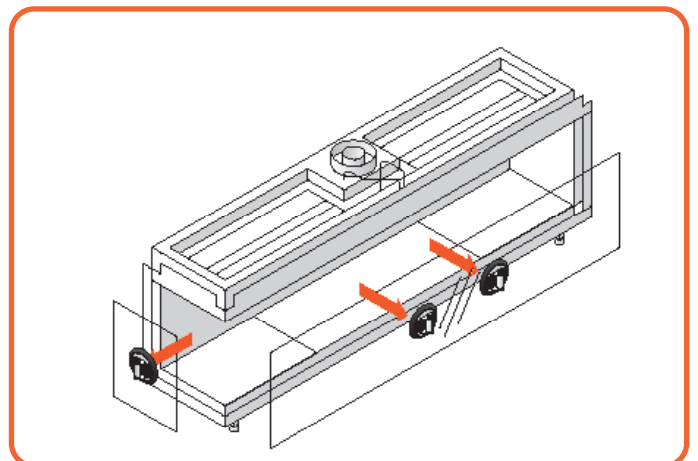

Figure 10.13 - Carefully remove the glass
- Carefully lift the glass out of the lower glass rail and tilt it out through the opening, as seen in **Figure 10.13.**